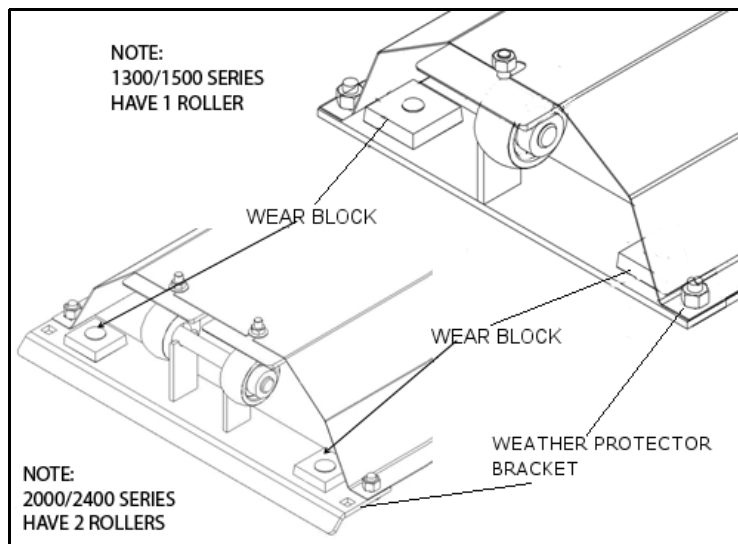

Figure 8.4 Weather Guard Guide Block
3. Adjust wear blocks if unit has weather protectors (see Figure 8.4).